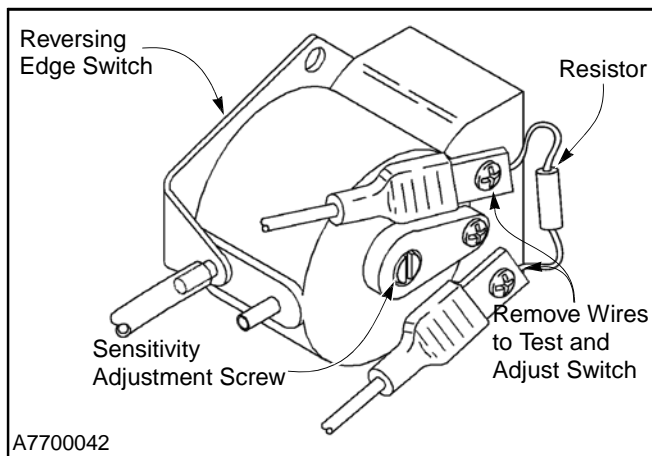

Figure 42
1. The reversing edge switch is a normally open contact. The PVC hose is on the lower air input post. To adjust the switch, first remove the wires and resistor from the contact terminals and attach an ohmmeter across the two terminals. (See Figure 42.)
2. Turn the adjustment screw, located on the face of the switch, clockwise or counterclockwise until continuity is achieved. Then turn the screw two full turns counterclockwise. The ohmmeter should no longer show continuity. Turning the screw counterclockwise decreases sensitivity. Turning the screw clockwise increases sensitivity. (See Figure 42.)